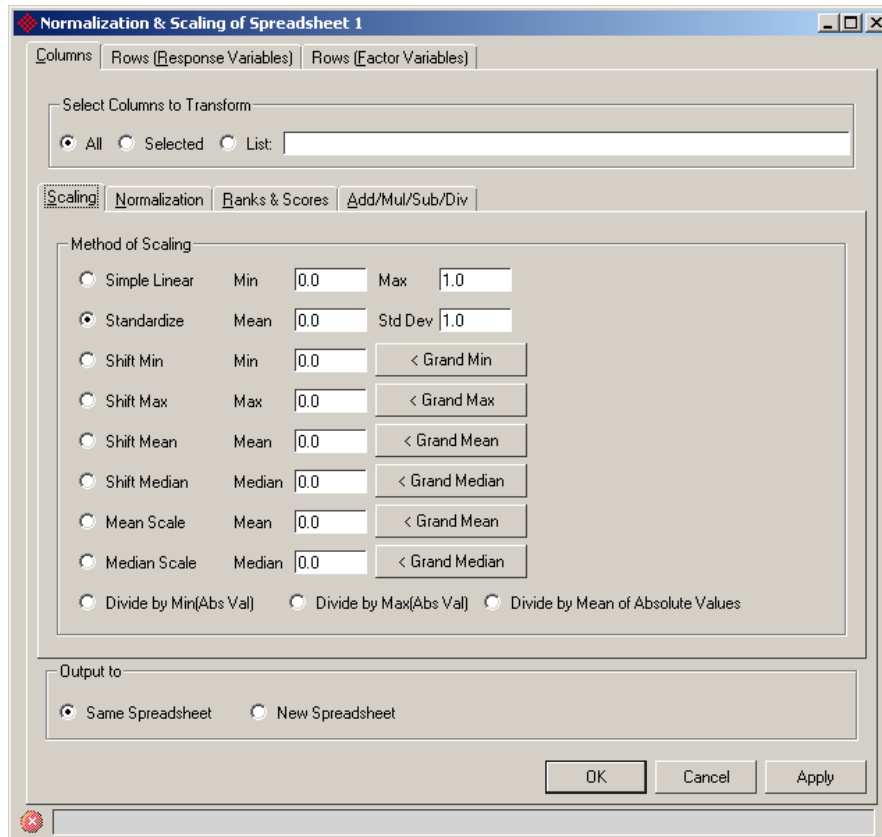

Figure 10. 4: Configuring the Scaling page of the Normalization & Scaling dialog
- Select the columns or rows to be transformed by clicking the tab at the top of the dialog (Figure 10. 4)